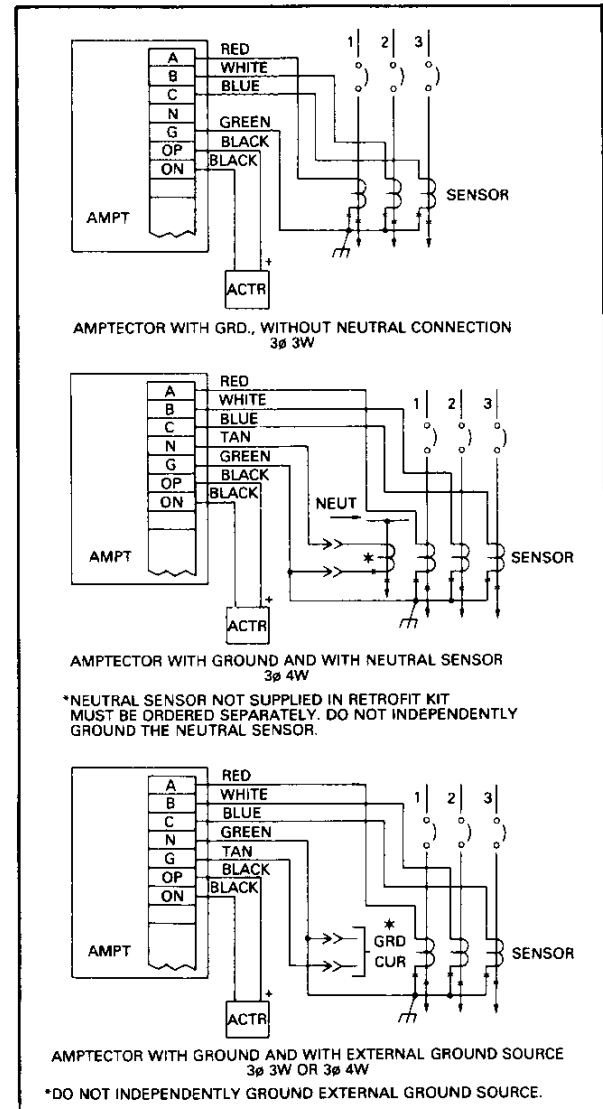

Fig. 9
1. Acquaint yourself with the wiring scheme, Fig. 9.